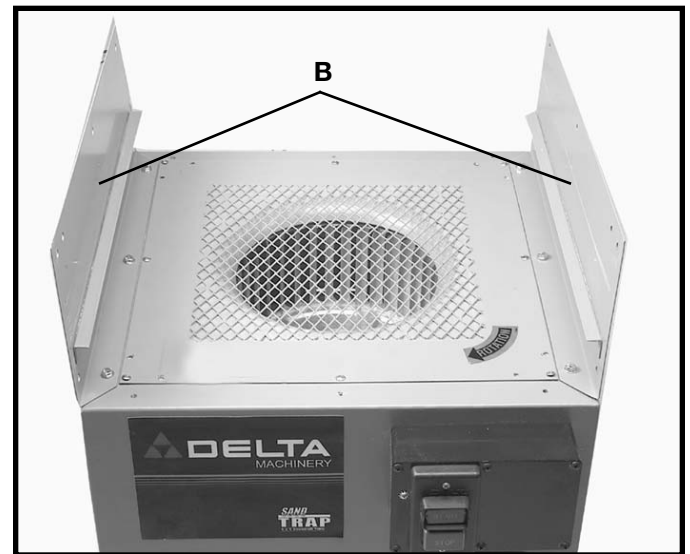

Fig. 8
2. Attach the side middle boards (B) Fig. 2, to the motor case. Align the holes in the side middle boards (B) Fig. 8, with the holes in the top of the motor case. Insert a 1/4-20x5/8" hex flange screw through the hole in the side middle board and thread into the tapped hole in the top side of the motor case. Repeat this process for the 5 remaining holes in the side boards and the motor case as shown in Fig. 8.